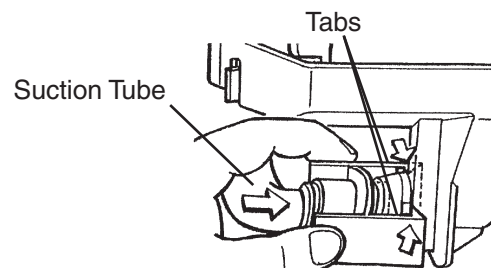

Fig. 32
- 4) Reconnect the suction tube as illustrated. See Fig. 32. Make sure the tabs lock into place; a loose fitting may cause a water leak.